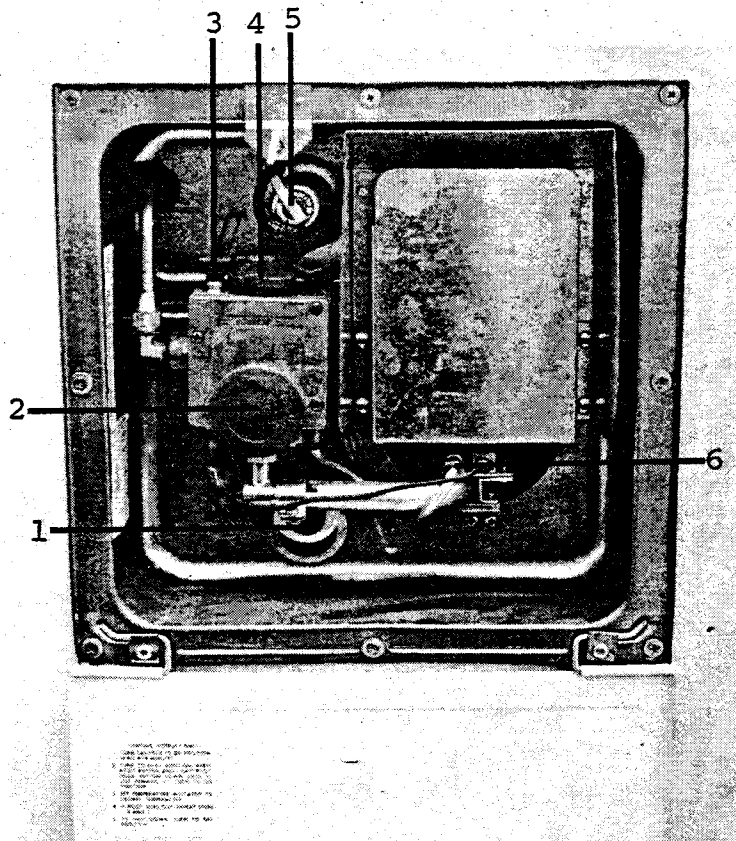

Figure 7-5. Water Heater
Lighting Instructions (See Figure 7-5).
- a. Open drain valve (1). (See Figure 7-5).